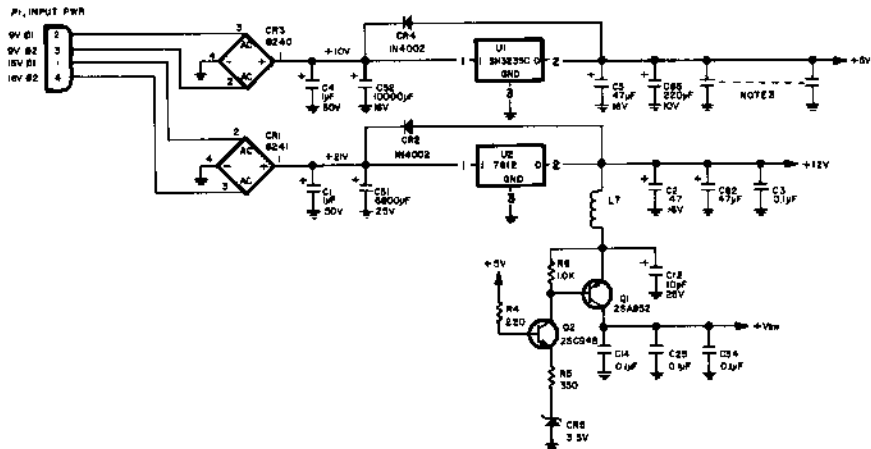

Fig. 7-3. Schematic of power supply, Model 1540.
7.1.2 Power Supply Electrical Theory (Refer to Figs. 7-3 and 7-4)